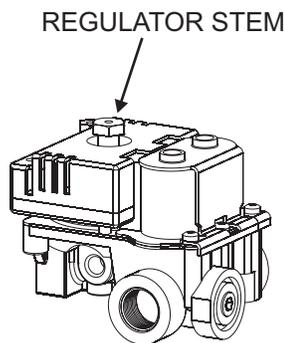

Figure 44
3. Unscrew regulator stem from gas valve and reverse regulator stem to the natural gas position and screw stem back into gas valve. See Figure 44.
4. Open four (4) door latches in order to pivot open the front door.